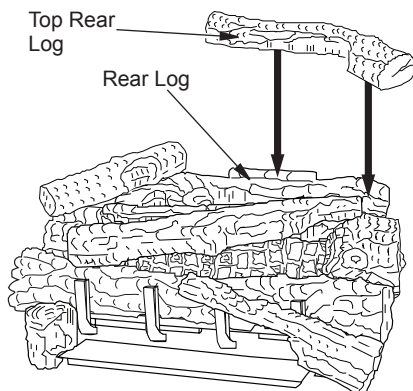

Figure 48 - Installing Top Rear Log
12. Place the top rear log onto the rear log as shown. The rear log has a projection that will fit into the recess area on the bottom of the top rear log (see Figure 48).